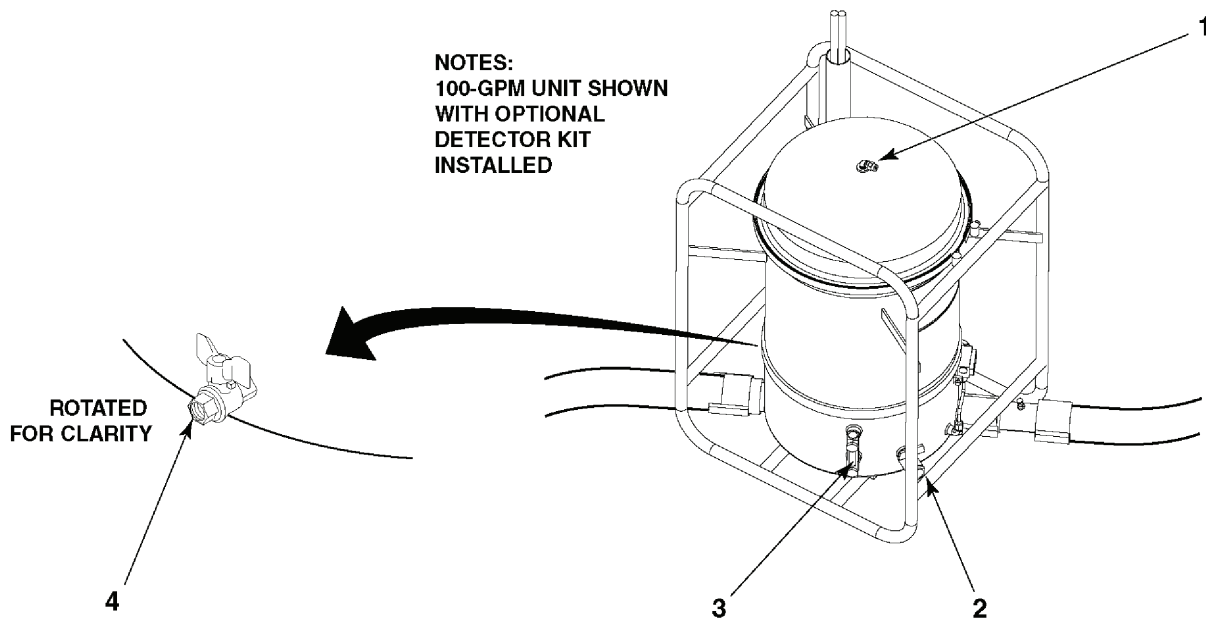

Figure 2. Filter/Separator Unit Post-Operation
2. Open purge valve (figure 2, 1) by turning counter-clockwise.
3. Place a suitable container under water drain valve (2) and open water drain valve (2) to drain any water that has accumulated in sump.
4. When all water has drained and green ball in sight gauge (3) reaches bottom, fuel will begin to flow from valve. Close water drain valve (2).